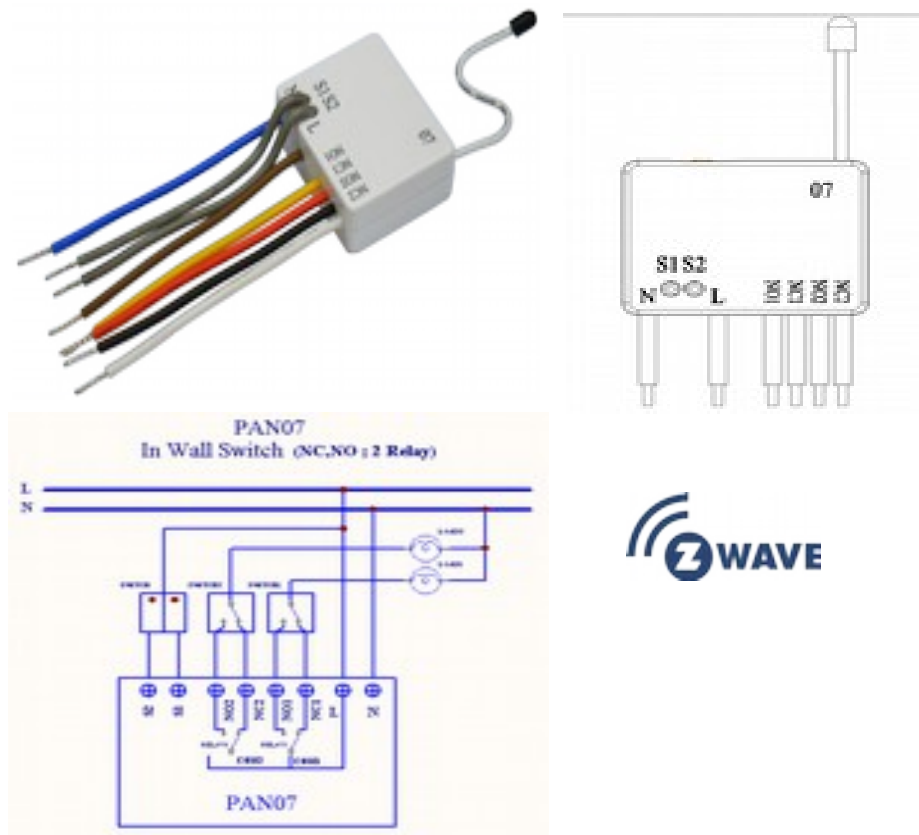

Fig 1. Assembling
2. Connect the wall switch to the PAN07 as Fig1 .